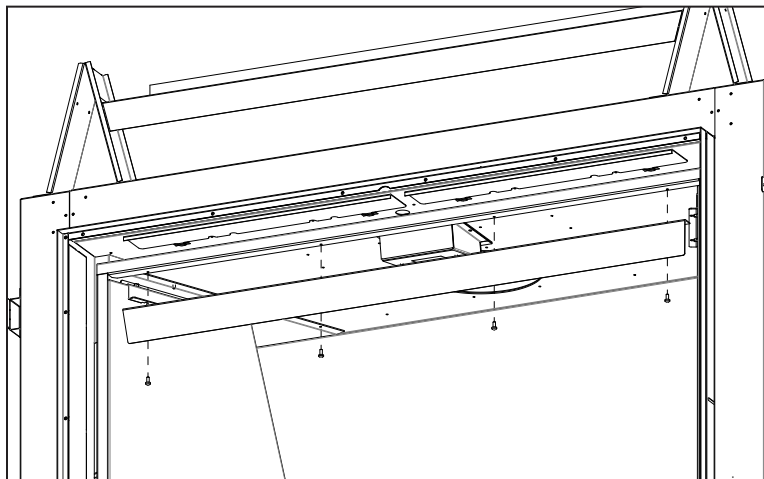

Figure 75: Light Deflector Removal
Step 2. Remove light deflector by removing the four (4) retaining T-20 screws (see Figure 75).